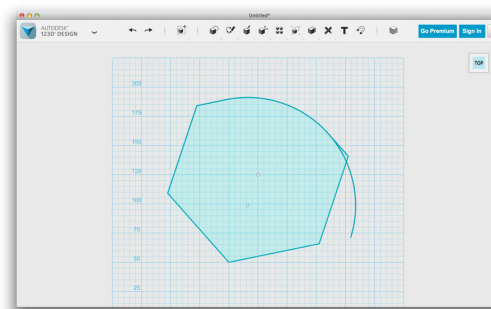

Figure 4-86 An extended sketch.
4. Click the checkbox or hit the Enter key and the shape will become solid (Figure 4-86).